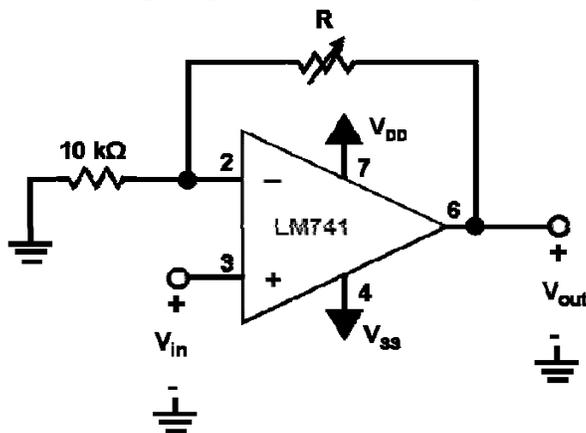

Figure 4: The non-inverting amplifier
- On your breadboard, build the op amp circuit shown in Figure 4.